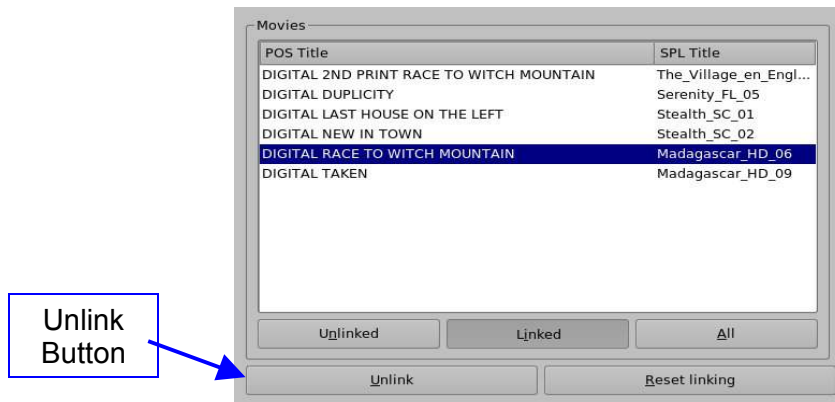

Figure 40: Edit Links Window – Linked View
- The following window will be displayed (Figure 40):